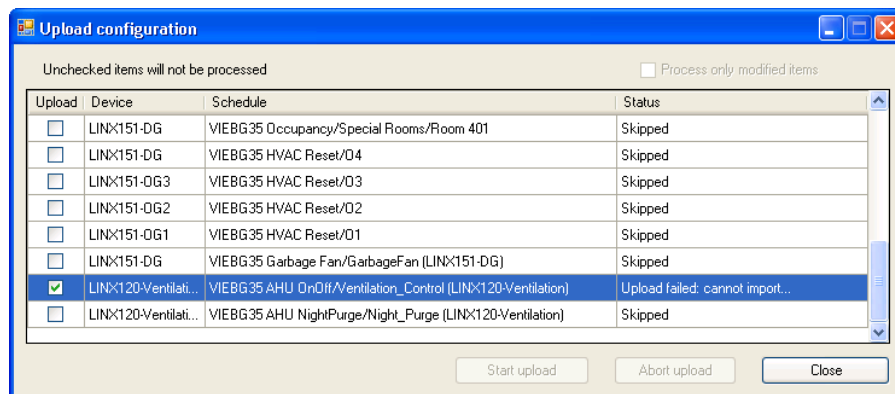

Figure 141: Master Schedule Upload Error
3. If the changes cannot be uploaded into the master schedule configuration, an error will be displayed as shown in Figure 141. In this example the preset values were changed using the Web UI. Because the presets affect all other schedulers under the same master schedule node, the modified presets will not be uploaded to the master schedule configuration.